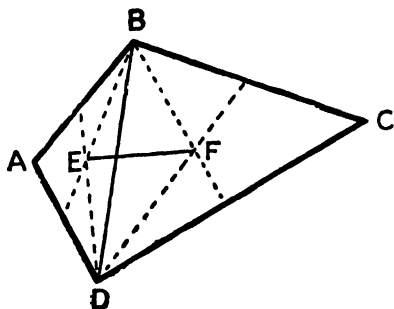

FIG. 36.
C.G. of any Quadrilateral Lamina. We may suspend the lamina from two different points or proceed as follows: Divide the lamina into two triangles by drawing a diagonal BD (fig. 36).